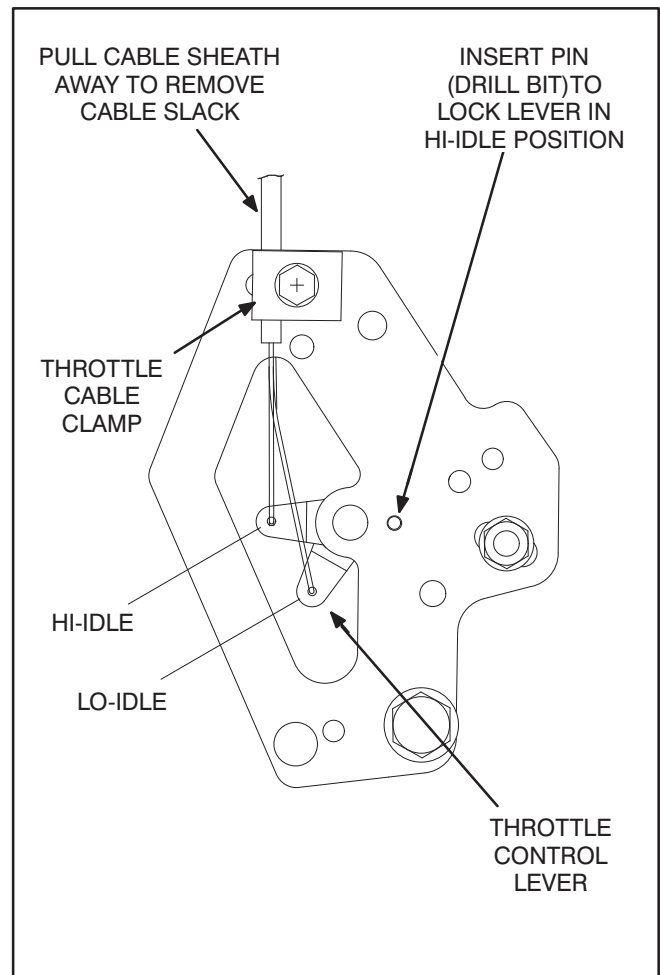

FIGURE 8. THROTTLE CABLE ADJUSTMENT AT SPEED CONTROL PLATE
1. Shut off the engine and loosen the throttle cable clamp on the speed control plate (Figure 8).